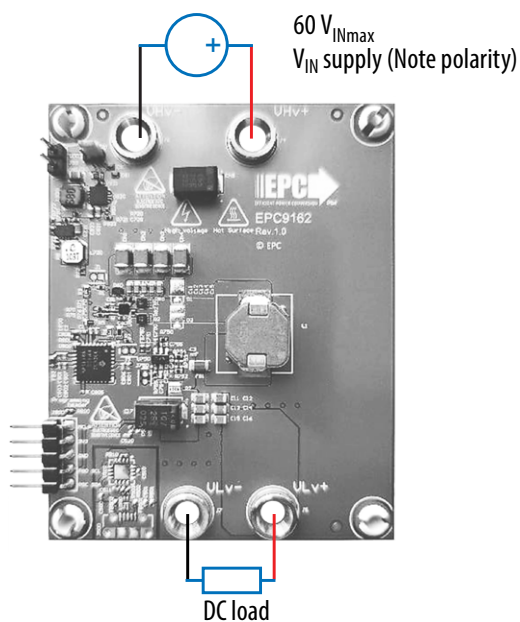
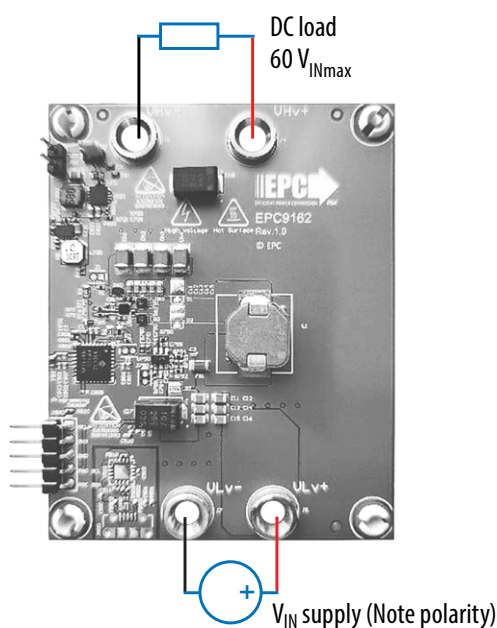

Figure 10: Input and output connection (buck)
Figure 11: Input and output connection (boost)
1. With power off, connect the input power supply to V_{LV} or V_{HV} as shown in Figure 10 for buck operation and Figure 11 for boost operation.
2. With power off, connect the load to V_{LV} or V_{HV} as in Figure 10 for buck operation and Figure 11 for boost operation.